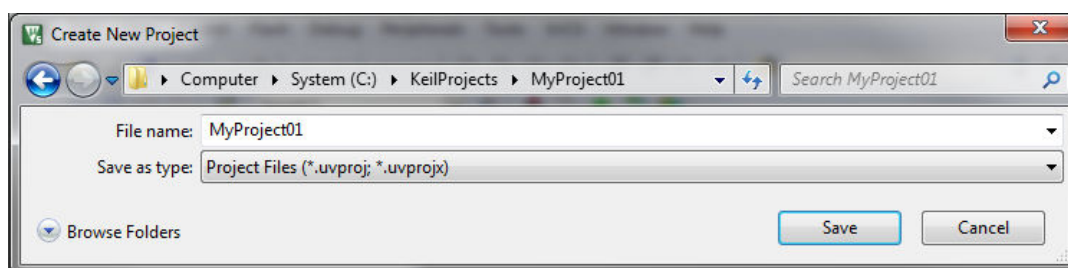

Figure 1-15. Create New Project dialog
3. Navigate to the folder where you want to create the project, for example C:\KeilProjects\MyProject01. Type the name of the project, for example MyProject01. Click Save. See Figure 1-15.